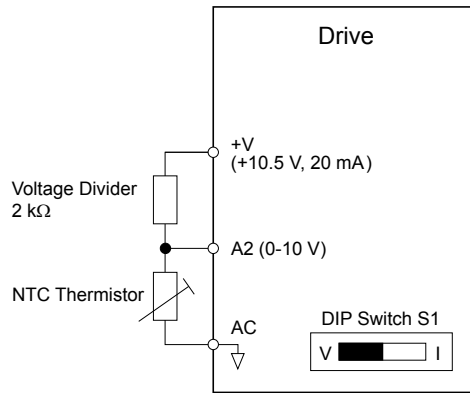

Figure 5.93 Motor Protection Circuit Using NTC Input
*Figure 5.93* shows a circuit using the NTC thermistor and the terminal resistance values. Set DIP switch S1 on the drive to "V" for voltage input when wiring the NTC thermistor input to terminal A2 on the drive.